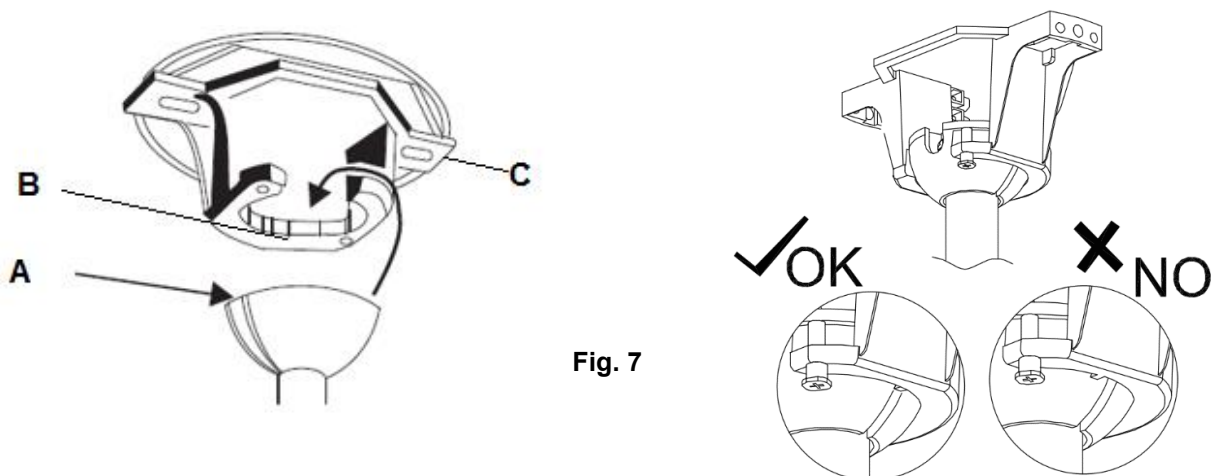

Fig. 7
Lift the fan assembly onto the mounting bracket. Ensure the key slot (A) of the hanger ball is positioned on the key pin (B) of the mounting bracket (C) to prevent the fan from rotating when in operation. (Fig.7)
Hang the fan (Refer to “hanging the fan” Fig.7).